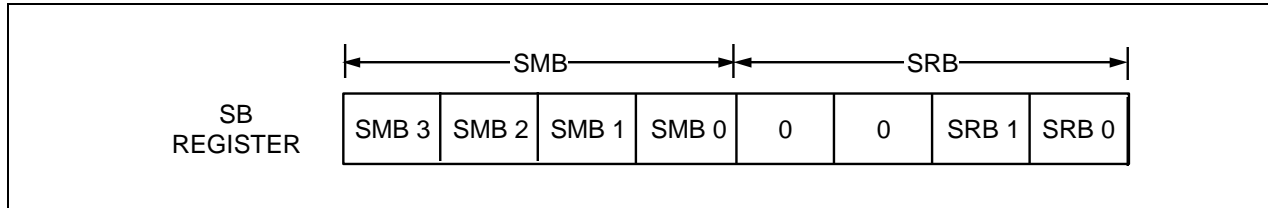

Figure 3-2. 4-Bit SMB and SRB Values in the SB Register
The select bank register (SB) is used to assign the memory bank and register bank. The 8-bit SB register consists of the 4-bit select register bank register (SRB) and the 4-bit select memory bank register (SMB), as shown in Figure 3-2.